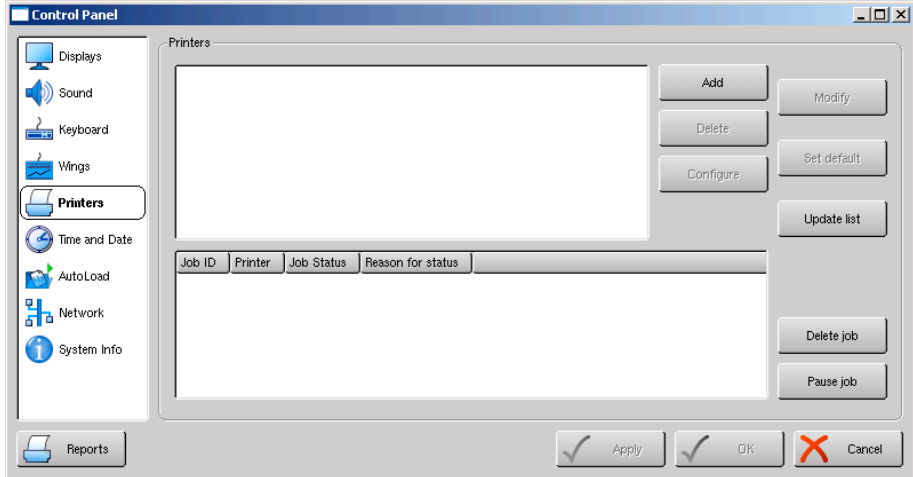

Figure 12.5. The Printers Pane of the Control Panel
1. Setup → Control Panel → Printers : open the Printers pane (see *Figure 12.5*, "The Printers Pane of the Control Panel").
- Setup → Control Panel → Printers : open the Printers pane; see *Figure 12.5, "The Printers Pane of the Control Panel"*.
1. Setup → Control Panel → Printers : open the Printers pane; see *Figure 12.5, "The Printers Pane of the Control Panel"*.